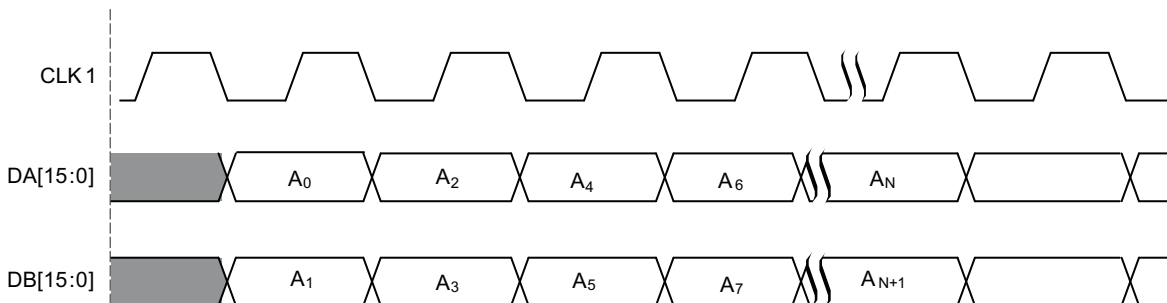

Figure 38. HALF RATE BUS MODE (PLL Clock Mode)
In HALF RATE BUS MODE, the user inputs data on both DA[15:0] and DB[15:0] ports at half rate and input logic merges both data streams into one DAC channel (A). This mode is selected by setting CONFIG1 **inssel\_mode[15:0]** = '11'. Refer to Figure 38.